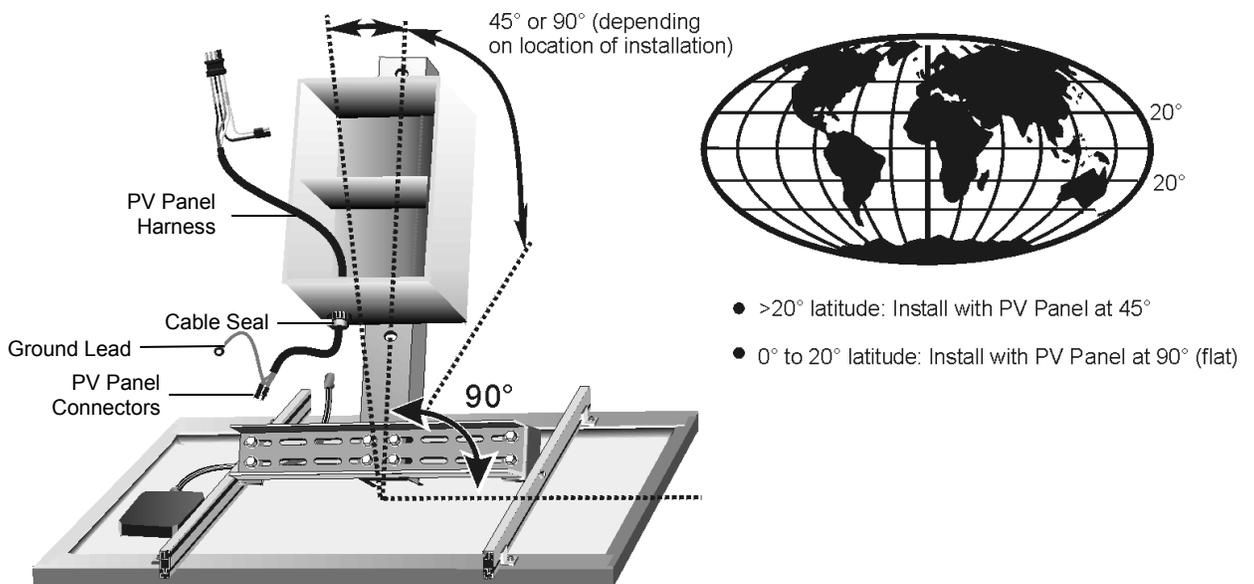

Figure 14 Positioning the Mounting Adaptor
1. Position the mounting adaptor so that it is perpendicular to the channel and at either a 45° angle (for locations outside of 20° latitude) or a 90° angle (for locations within 20° latitude), as shown in Figure 14.
1. Insert the PV panel harness and cable seal into the hole on the battery box as shown in Figure 14. Position the cable so there is at least 12 inches (30.5 cm) of cable inside of the battery box.